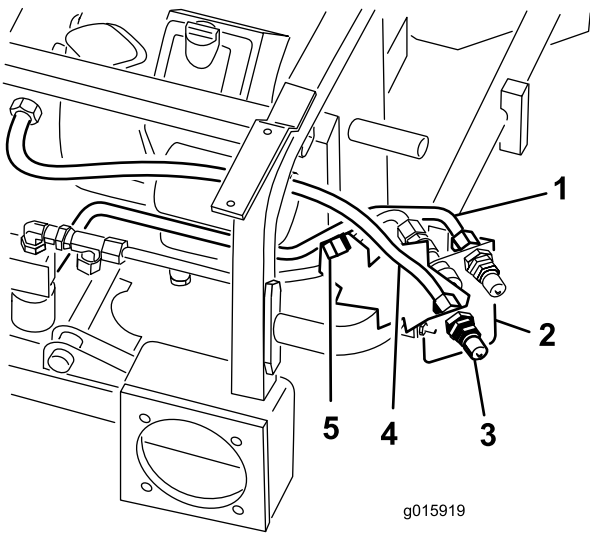

Figure 17
- Loosely install hydraulic line (hose) number 5 to the lower male coupler (Figure 17).